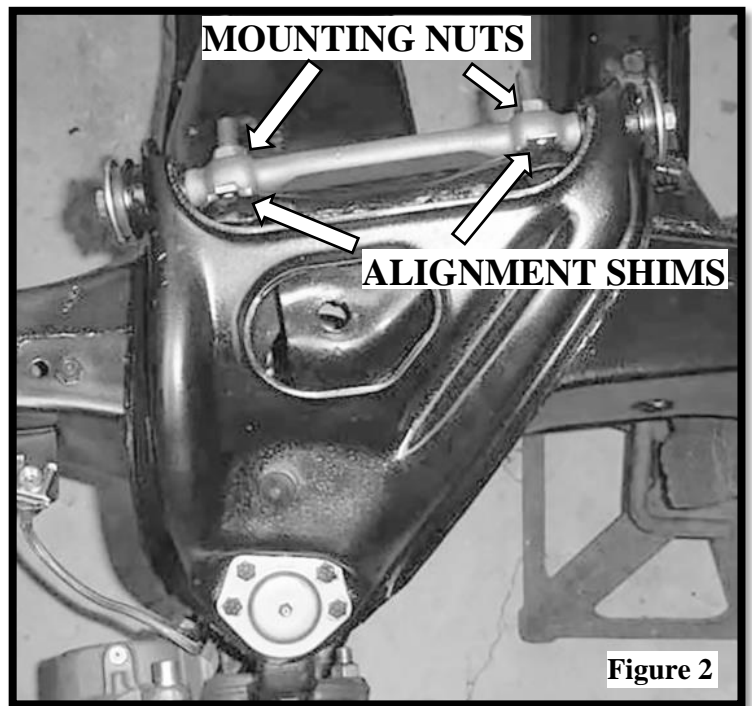

Figure 2
7. Note the position of the shims on the cross shaft of the upper control arm. **(Figure 2)**
8. Remove the nuts from the cross shaft and remove the upper control arm. **(Figure 2)**